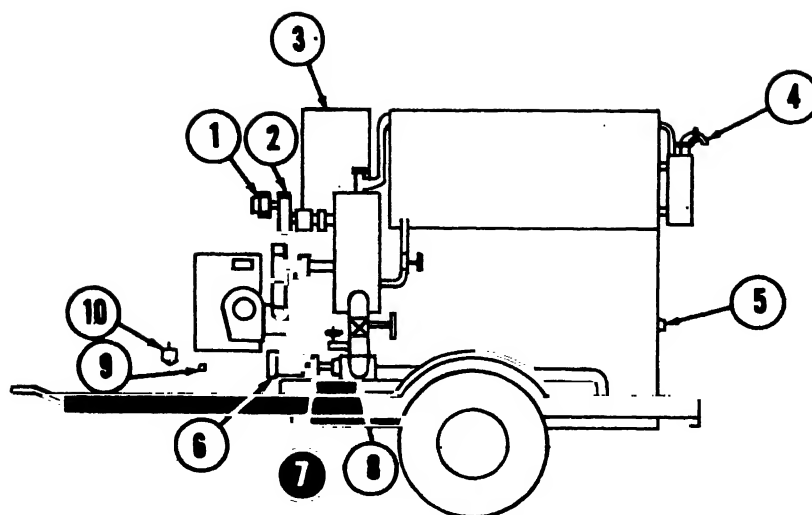

FIGURE 17. QUARTERLY PREVENTIVE MAINTENANCE SERVICES
a. This paragraph contains an illustrated, tabulated listing of preventive maintenance services which must be performed by the organizational maintenance personnel at quarterly intervals. A quarterly interval is equal to three (3) calendar months, or 250 hours of operation, whichever occurs first.
b. The item numbers are listed consecutively and indicate the sequence of minimum requirements. Refer to Fig. 17 for the quarterly preventive maintenance services.